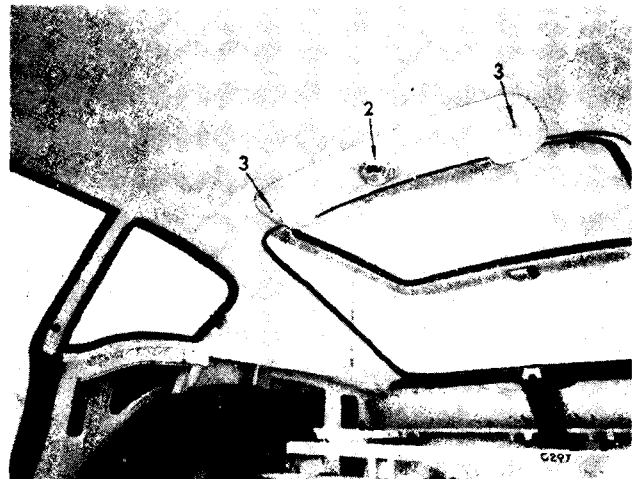

Fig. 37. Tailgate hinge cover
Twist the roof lamp lens (2) (Fig. 37) to reveal two screws. Remove the screws, lower the lamp and pull off the Lucar connectors.
Remove the two screws (3) (Fig. 37) and detach the tailgate hinge cover.
Twist the lamp lens (2) (Fig. 37) to reveal two screws. Remove the screws, lower the lamp and pull off the Lucar connectors.
Remove two screws (3) (Fig. 37) and detach the hinge cover.